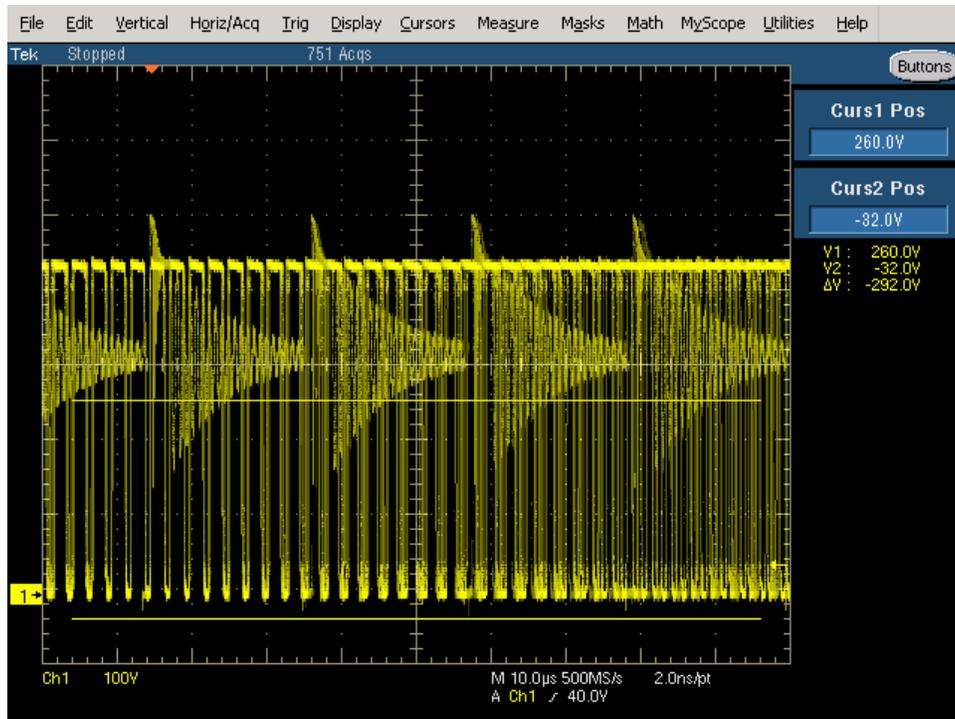

Figure 5 - Transition Overlap CCM/DCM
27. Slowly turn load up to 2.25 A (or until mode transition) and check to see a clean transition from DCM to CCM (clean transition is detailed in Figure 5)
28. Slowly turn load down to 0.3 A (or until mode transition) and check to see a clean transition from CCM to DCM (clean transition is detailed in Figure 5)
- If overlap (figure 5) is seen at any given load point without settling on DCM or CCM operation within 2 seconds, this is not a clean transition.